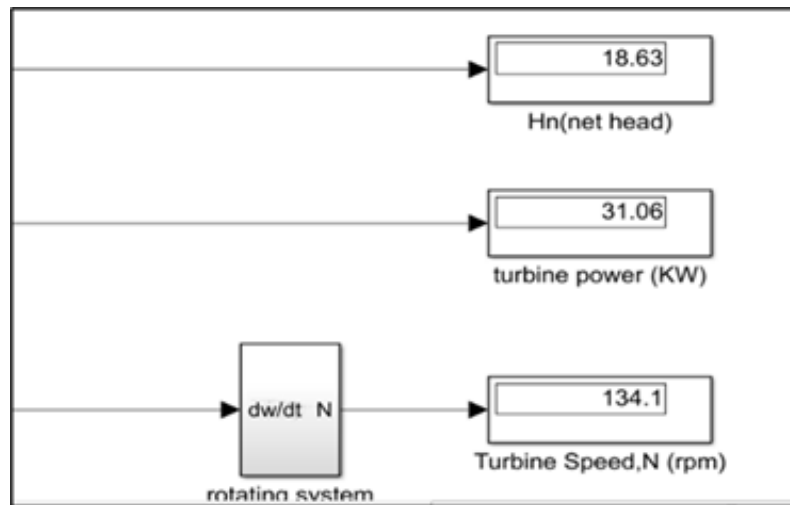

Figure 5.3: Turbine Power, P reading [3]
5. Record the reading of Turbine Power, P (kW) as shown in Figure 5.3 in Table 5.1 and Table 5.2 in result section.